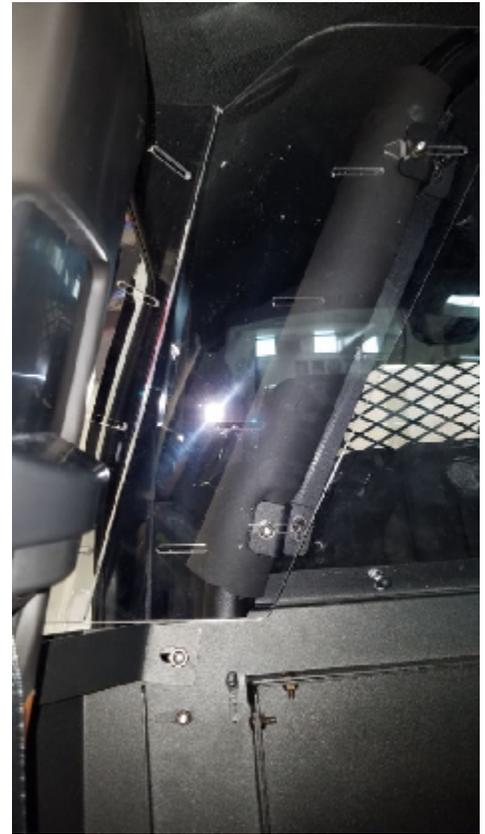

Fig.7
17) At upper wings, center extension & footwells, use cap nuts (Fig.7) supplied to avoid injuries.